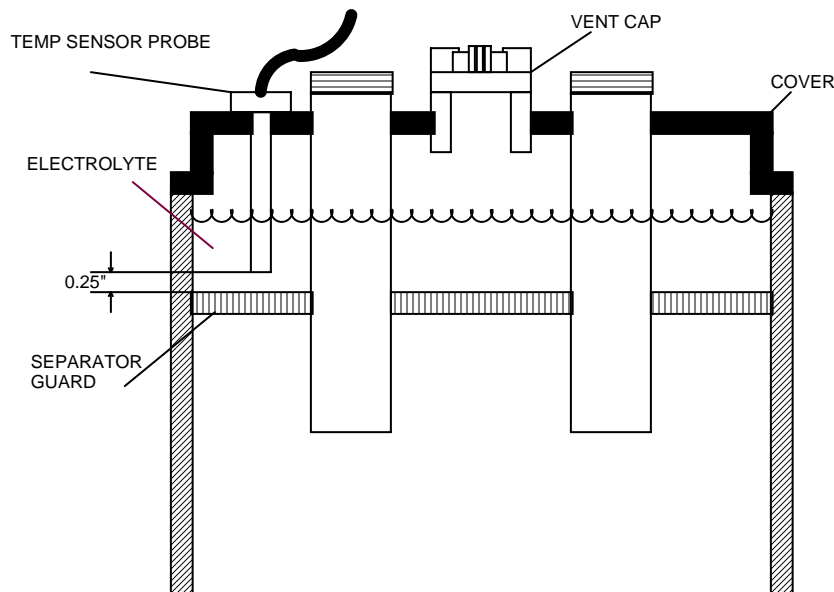

Fig. 5.1 Temperature Sensor Installation
- Screw the sensor probe into the drilled hole. Make sure the probe tip is in contact with the electrolyte and has a minimum clearance of 0.25" from the tip of the sensor to the separator guard (See Figure. 5.1). The mounting depth can be adjusted from 1.5" to 2.4".